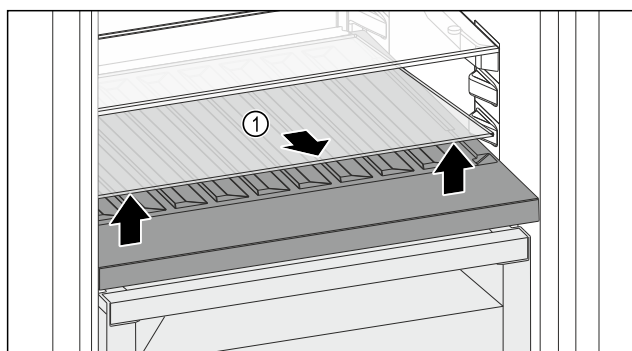

Fig. 145
- Lift the glass shelf Fig. 145 (1) at the front and remove.
- Store the glass shelf Fig. 145 (1) in a safe place outside the appliance.
- Insert the glass shelf (2) under the variable bottle rack.